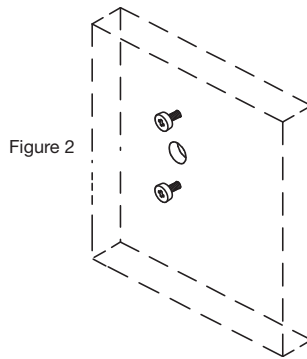

Figure 2
2. Install the two #8-32 shoulder screws (US) or the two M4-0.7 shoulder screws (Metric) on the front of the safe door to mount the Entry Device to the door. (Figure 2)